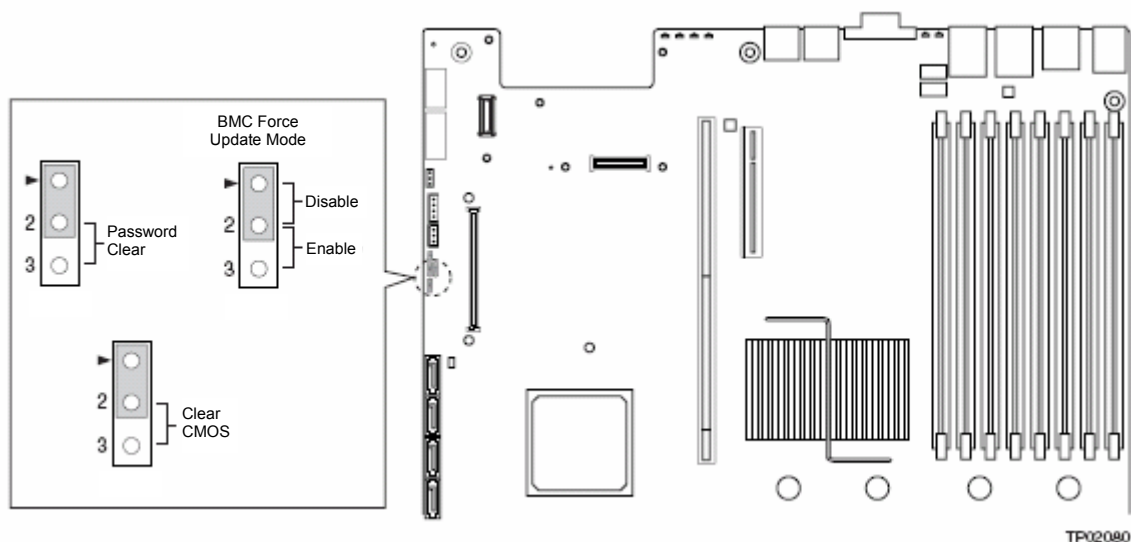

Figure 2. Jumper Locations and Configuration
2. Remove the server top cover and move the Password Reset jumper from pins 1 and 2 (the default operating position) to pins 2 and 3, see Figure 2, page 6.
2. Remove the server top cover and move the Clear CMOS jumper from pins 1 and 2 (the default operating position) to pins 2 and 3, see Figure 2, page 6.